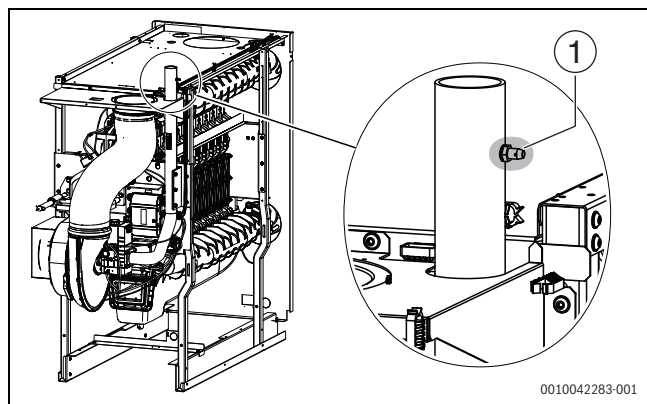

Fig. 34 Venting the gas line
- ▶ Release the locking screw of the gas supply pressure and ventilation test nipple (→ Fig. 34, [1], page 28) by turning it through 2 revolutions.